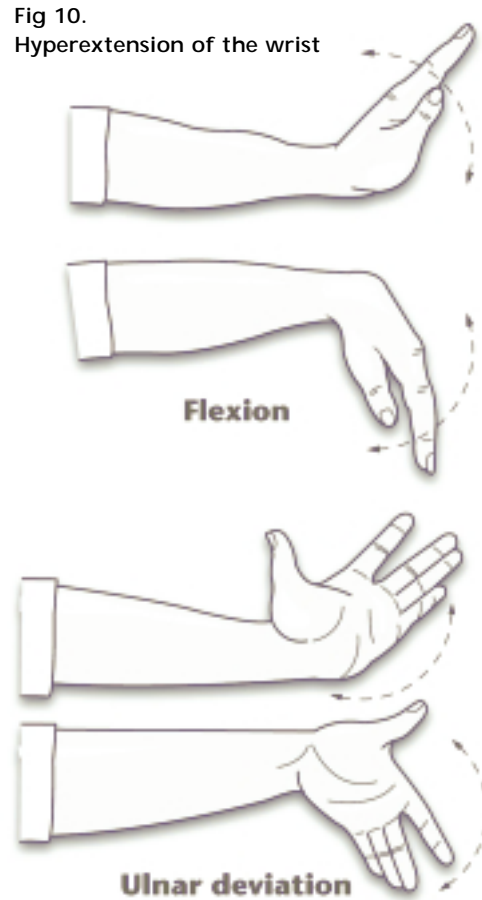

Fig 10.
- bending the wrist, which can cause the space inside the carpal tunnel to be reduced and the tendons to compress the median nerve. Fig 10.